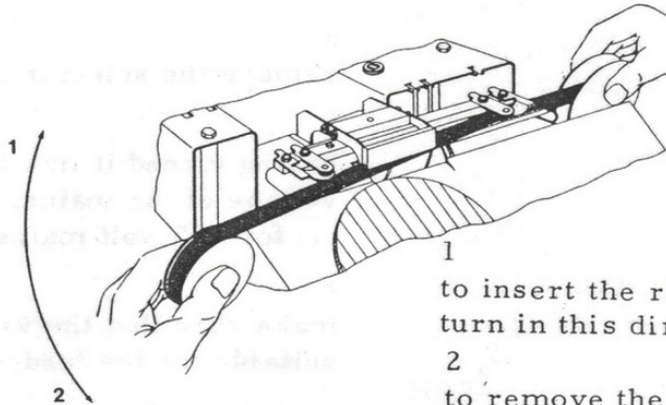

Fig. 3
- b take hold of the two spools at the same time and remove them from their spindles, as shown in fig. 3
- b wind about 8 inches of ribbon on to the empty spool, bearing in mind that the ribbon has to unwind from the top (see fig. 3)
- c take hold of the two spools at the same time and stretch the ribbon; insert it under the anvil of the striker-system and under the two reversing-contacts situated at the ends of the guide-path (see fig. 3)